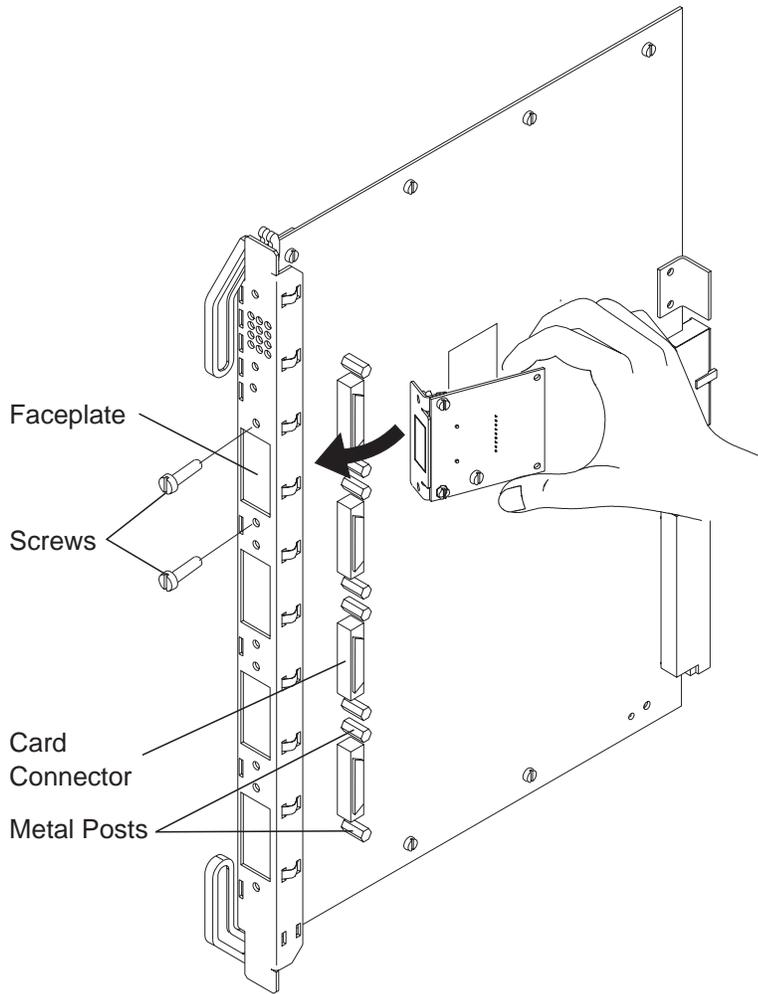

Figure 5. Installing an I/O Card on the 155 Mbps Module Motherboard
- ___ **3** Hold the I/O card so that its connector and screw holes are aligned over the connector and small metal posts on the motherboard (see Figure 5 on page 24). Then gently push the card forward (so that its port fits into the opening on the motherboard front panel) and down until you hear it click into the motherboard connector.
Attention: When installing an I/O card on the motherboard, be careful not to touch its components. Always hold the card by the faceplate or by its edges as shown in Figure 5.